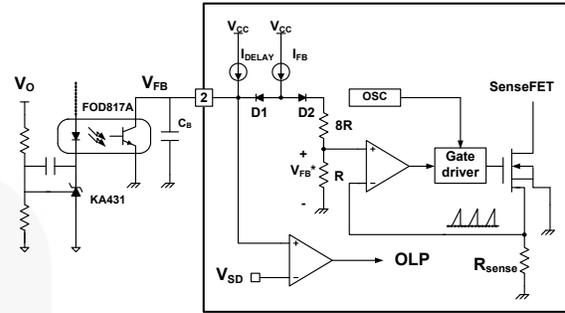

Figure 16. Pulse Width Modulation (PWM) Circuit
2. Feedback Control: FSQ500L employs current mode control, as shown in Figure 16. An opto-coupler (such as the FOD817A) and shunt regulator (such as the KA431) are typically used to implement the feedback network. Comparing the feedback voltage with the voltage across the R_{sense} resistor makes it possible to control the switching duty cycle. When the reference pin voltage of the regulator exceeds the internal reference voltage of 2.5V, the opto-coupler LED current increases, pulling down the feedback voltage and reducing the duty cycle. This typically happens when the line input voltage increases or the output load current decreases.
2.1 Pulse-by-Pulse Current Limit: Because current mode control is employed, the peak current through the senseFET is limited by the non-inverting input of PWM comparator (V_{FB}^*), as shown in Figure 16. Assuming that $225\mu A$ current source flows only through the internal resistor ($8R + R = 12k\Omega$), the cathode voltage of diode D2 is about 2.7V. Since D1 is blocked when the feedback voltage (V_{FB}) exceeds 2.7V, the maximum voltage of the cathode of D2 is clamped at this voltage, clamping V_{FB}^* . Therefore, the peak value of the current through the senseFET is limited.